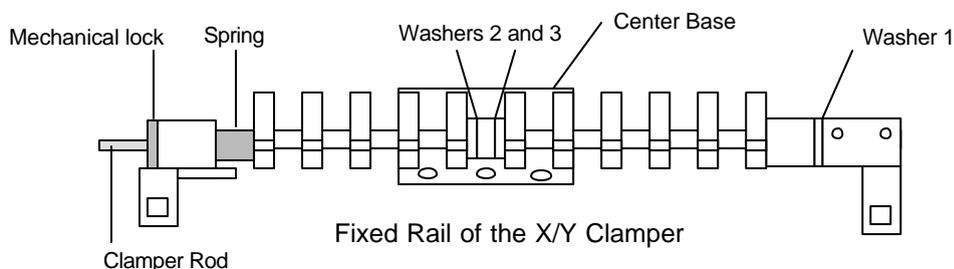

Figure 19
- For details of the location of various parts described above see Fig.19.